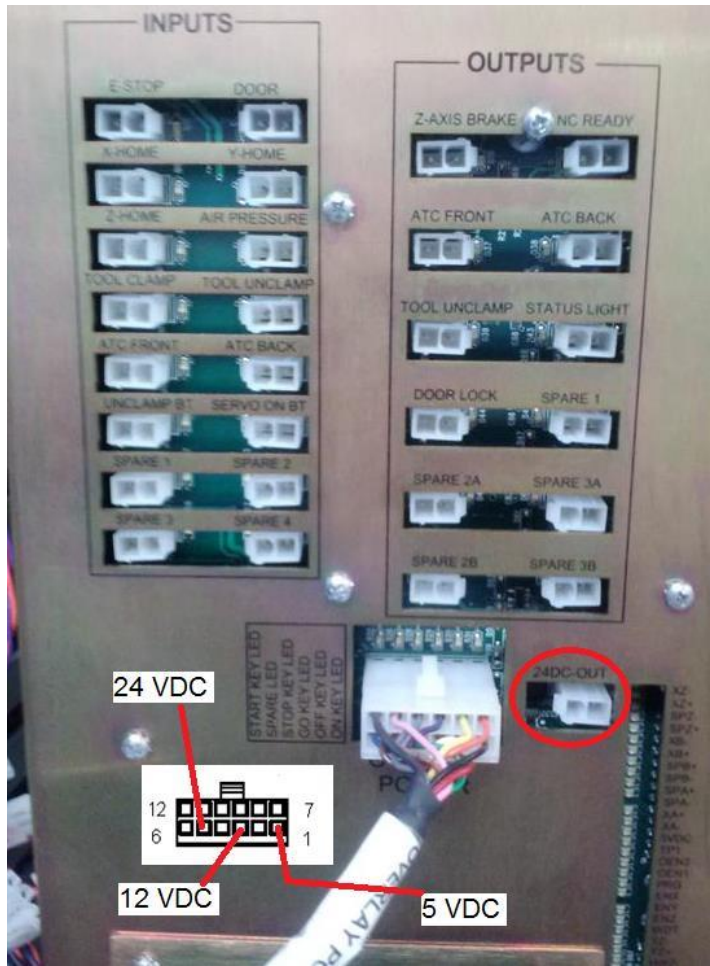

Figure 5.7.1b
4. 24VDC (22 to 26VDC) – This voltage is produced by the internal power supply of the computer module and is used for most of the inputs and outputs. The voltage can be measured between pin 1 of the 24VDC Port and the chassis ground on the computer module or on pin 5 of the overlay power cable, as seen on figure 5.7.1b
5. +12VDC (11 to 13VDC) – This voltage is produced by the internal power supply of the computer module, it is used to power some internal functions of the computer module and to power the LCD controller board. The voltage can be measured between pin 3 of the Overlay Power Port and the chassis ground on the computer module, as seen on figure 5.7.1b. If this voltage is not correct the computer module will produce a DC Power Fault that will be identified by the Voltage Fault LED being turn ON, on the computer module.
10. 5VDC (4.75 to 5.25VDC) – This voltage is produced by the internal power supply of the computer module, it is used to power the internal functions of the computer module, servo drives, motor encoders, and the Overlay Interface board on the pendant. The voltage can be measured between pin 1 of the Overlay Power Port and the chassis ground on the computer module, as seen on figure 5.7.1b. If this voltage is not correct the computer module will produce a DC Power Fault that will be identified by the Voltage Fault LED being turn ON, on the computer module.